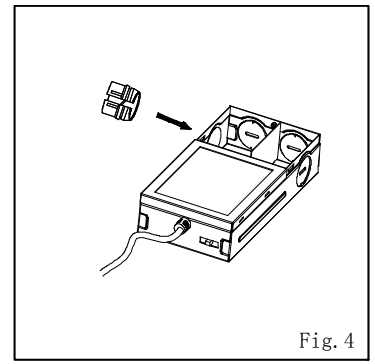

Fig. 4
4. Put wire clip into knock-off hole. (Fig.4)